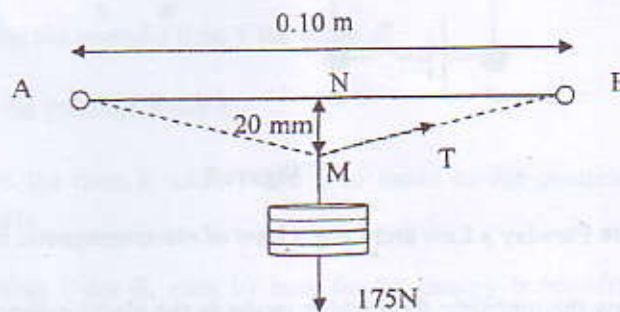

Figure 7
12. A steel wire is 0.10 m long and has a cross-sectional area of 0.025 mm^2 . It is supported horizontally between two points A and B which are 0.10 m apart. A load of 175 N is attached at the mid-point M of the wire. This causes M to be vertically displaced through 20 mm, as shown in Figure 7.
- Calculate the extension of the wire when loaded as shown in Figure 7. [4 marks]